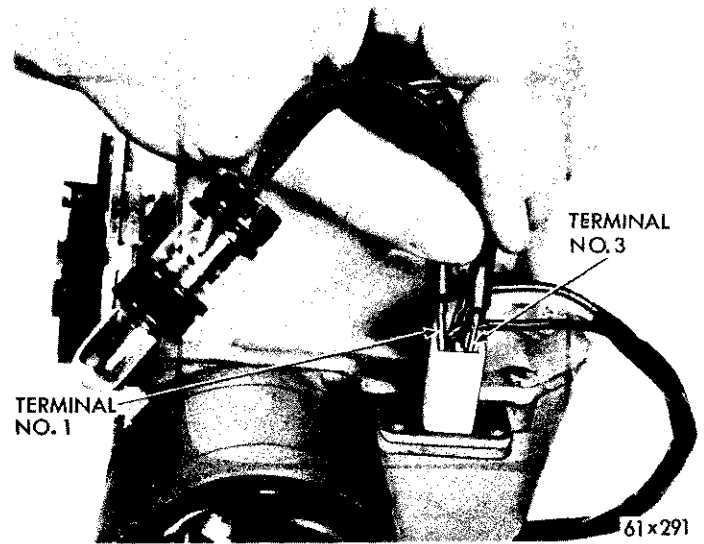

Fig. 18—Electrical Test (Terminal #3)
(4) Terminal #3—Insert one test lamp lead in terminal #1 and the other in terminal #3 (Fig. 18). No light indicates a normal circuit. The test lamp, however, should light when the button in the speed selector is pulled out. If the lamp fails to light, the wire from terminal #3 to the speed selector is loose or disconnected. Correctly connect the wire and retest with the test lamp. If the lamp still does not light, replace the selector head assembly.